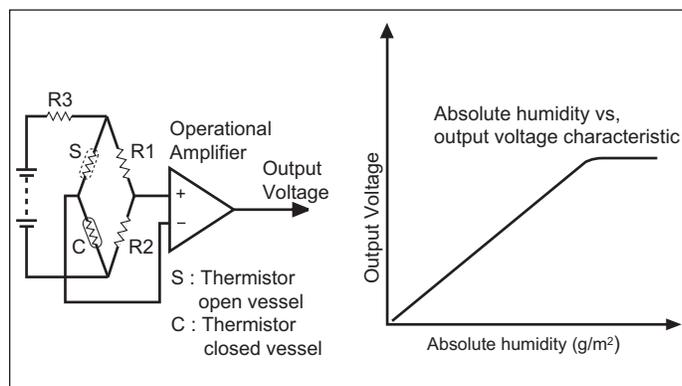

Figure 3-32. Bridge Circuit
B. Operational Principle of Humidity Sensor (See Figure 3-32): This illustration shows the basic structure of an absolute humidity sensor. A bridge circuit is formed by two thermistors and two resistors (R and R2). The output of the bridge circuit is to be amplified by the operational amplifier. Each thermistor is supplied with a current to keep it heated at about 150°C (302°F), the resultant heat is dissipated in the air and if the two thermistors are placed in different humidity conditions they show different degrees of heat conductivity leading to a potential difference between them causing an output voltage from the bridge circuit, the intensity of which is increased as the absolute humidity of the air increases. Since the output is varied every minute, it is amplified by the operational amplifier.